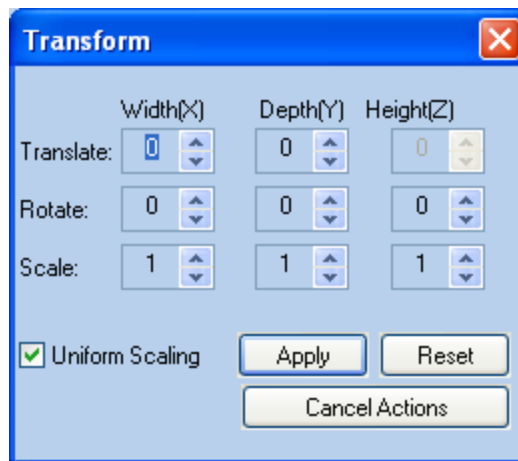

Figure 5-44 *Transform* dialog box
2. Display the *Transform* dialog box (see Figure 5-44 on page 5-36).